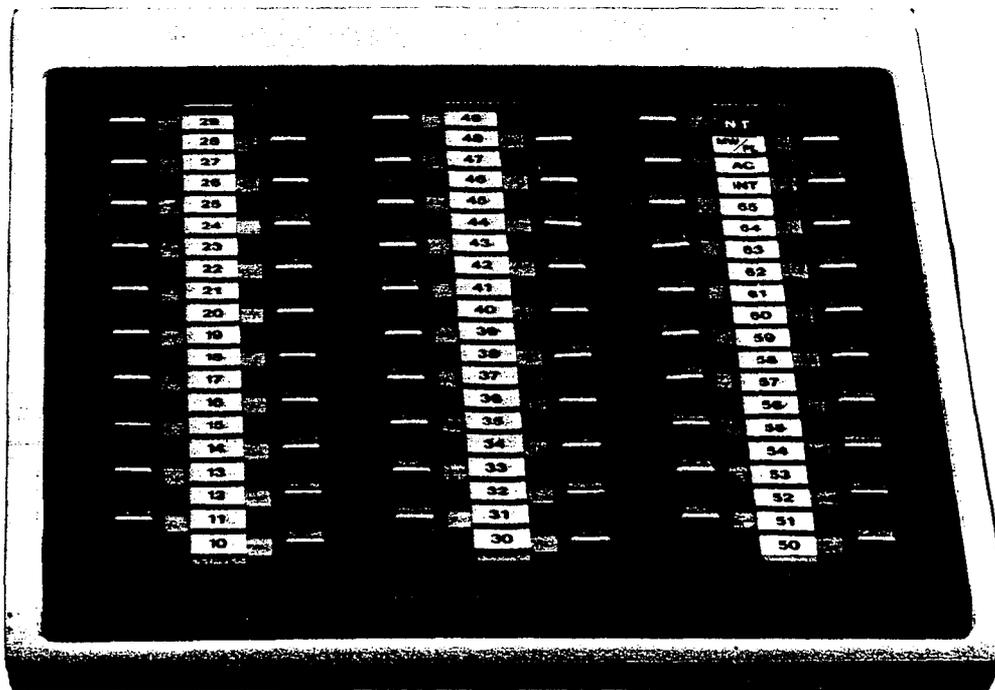

FIGURE 7—DIRECT STATION SELECTION (DSS) CONSOLE
02.21 An optional Direct Station Selection (DSS) console (Figure 7) is available for both systems where the volume of incoming calls warrants a dedicated call forwarding location. The dimensions of the DSS are the same as the EKT. The DSS is equipped with up to 56 station keys, an intercom key, an All Call page key, Message Waiting/Flash key and a Night Transfer key. Both systems may be equipped with one or two (which may operate simultaneously) consoles.